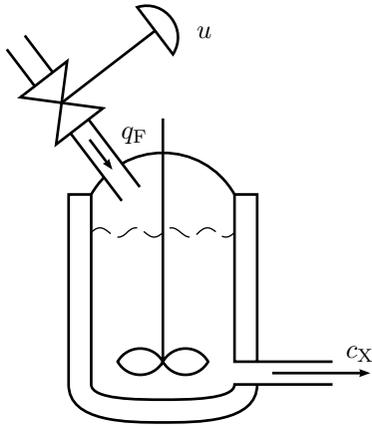

Figure 4.12a
4.12 Consider the biochemical reactor in Figure 4.12a. It is desirable to control the concentration of biochemical material c_X (output y) by manipulating the dilute flow q_F (input u). A model of this system can be described as